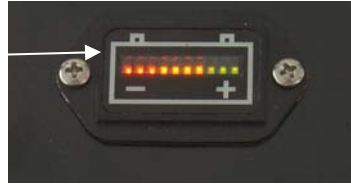

Fig. 2a
- All bars = Full Charge (Fig. 2a)